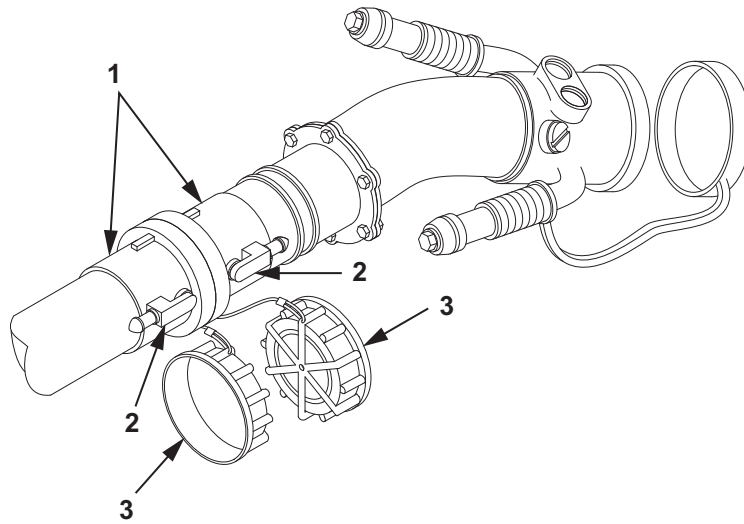

Figure 3. Valved Quick Disconnect Coupling Half Removal.
1. Place drip pans under quick disconnect coupling halves (Figure 3, Item 1) to be disconnected.
2. Position shutoff valves (Figure 3, Item 2) in the closed position.
3. Rotate the quick disconnect coupling half (Figure 3, Item 1) counterclockwise.
4. Detach quick disconnect coupling half (Figure 3, Item 1).
5. Install dust caps (Figure 3, Item 3) on quick disconnect coupling halves (Figure 3, Item 1).
1. Remove dust caps (Figure 3, Item 3) from quick disconnect coupling halves (Figure 3, Item 1).
2. Place quick disconnect coupling halves (Figure 3, Item 1) together and align quick disconnect coupling halves (Figure 3, Item 1).
3. Rotate one quick disconnect coupling half (Figure 3, Item 1) clockwise to connect quick disconnect coupling halves (Figure 3, Item 1).
4. Position shutoff valves (Figure 3, Item 2) in the open position.